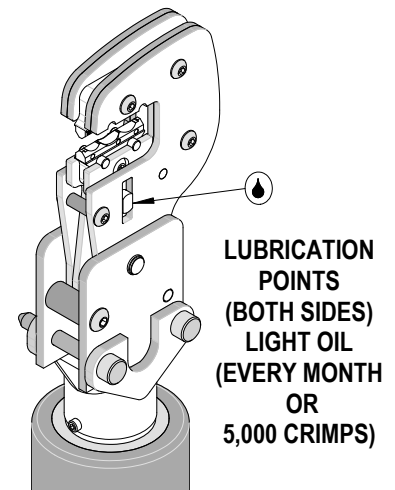

Figure 1
3. Make certain all pins, pivot points and bearing surfaces in the tool head are protected with a thin coat of high quality machine oil. Do not oil excessively. This tool was engineered for durability, but like any fine piece of equipment, it needs cleaning and lubrication for a maximum service life of trouble-free crimping. The use of a light oil, such as SAE 30 weight automotive oil, every 5,000 crimps or monthly, will significantly enhance the tool life and ensure a stable calibration. See Figure 1 for lubrication points.